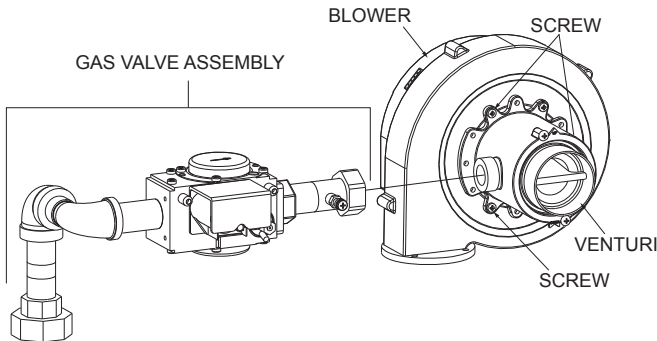

Figure 48. Gas Train Assembly 198AR thru 398A
3. Remove the (3) screws holding the Natural Gas Venturi to the Blower. See Figure 48.